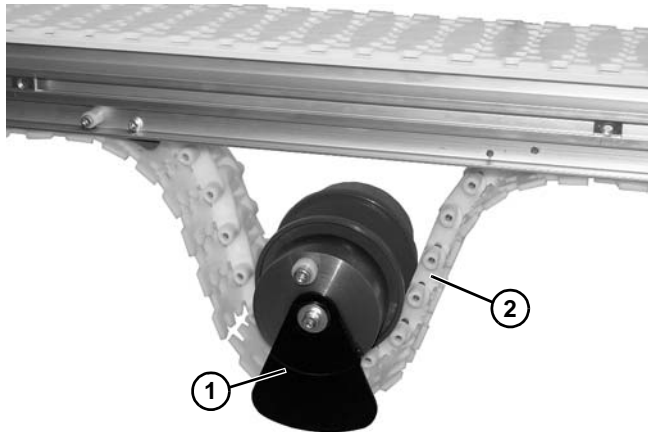

Figure 151
5. Remove idler pulley assembly (**Figure 151, item 1**) from belt (**Figure 151, item 2**).